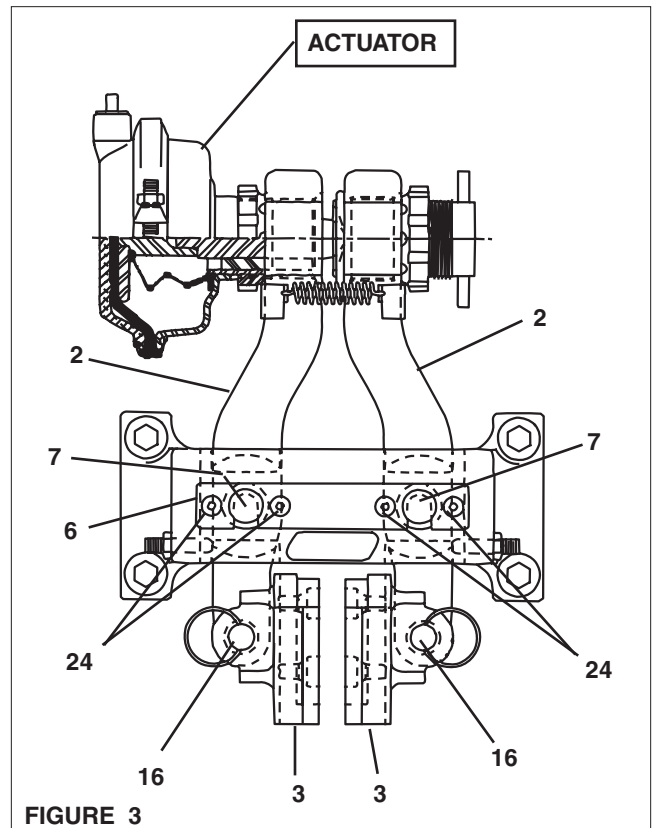

FIGURE 3
1. Pull Shoe Pins (Item 16) up and out (See Fig. 3).
2. Remove Shoes (Item 3) (See Fig. 3).
3. Remove four Cap Screws (Item 24) (See Fig. 3).
4. Remove Pivot Pin Retainer Plate (Item 6) (See Fig. 3).
5. Pry out Pivot Pins (Item 7) (See Fig. 3).
6. Slide Arms (Item 2) out of Main Frame (Item 1) (See Fig. 3).